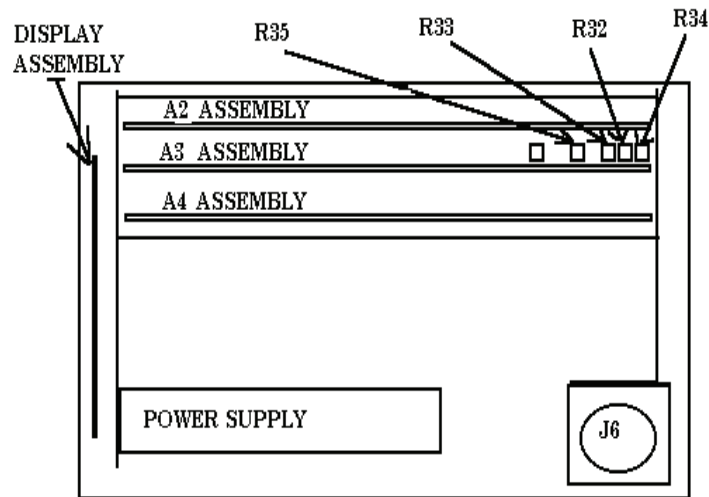

Figure 7. High speed I/O board A3 - adjustment locations.
- (1) Adjust A3R32 (fig. 7) for a **SUM** pulse width between 0.7 and 0.9 μs (R).
- (2) Adjust A3R34 (fig. 7) for a **DIFF** pulse width between 0.7 and 0.9 μs (R).
- (3) Adjust A3R33 (fig. 7) for a pulse width between 0.4 and 0.6 μ s (R).
- (4) Adjust A3R35 (fig. 7) for a pulse width between 0.4 and 0.6 μ s (R).